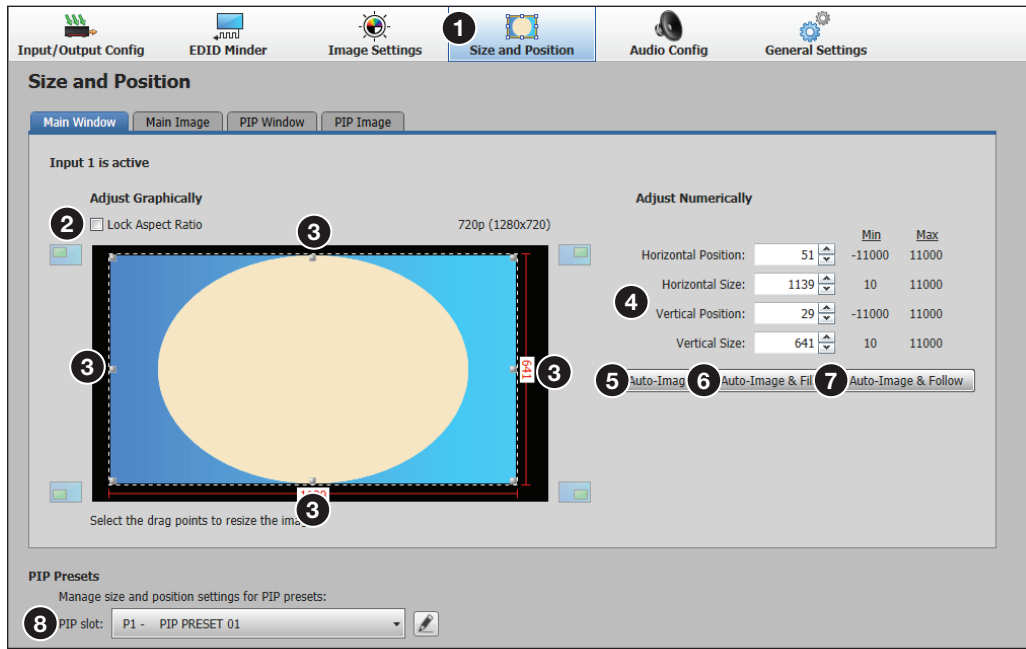

Figure 59. Size and Position Page
Click the **Size and Position** icon (see figure 59, ❶) on the global navigation bar to open the Size and Position page.
1. Click and drag the drag points (❸) of the sample image to resize the image within the designated space (defined by the black rectangular area).
2. Click anywhere inside the sample image (see the blue rectangle with a circle inside in figure 59) and drag it anywhere within the designated space to reposition the image.
To adjust the size and position graphically, numerically, or automatically, follow the steps as given above for the main window (see figure 59, ❹, ❺, ❻, ❼ on the previous page).